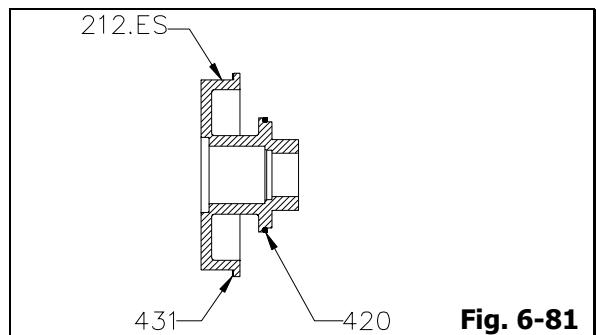

Fig. 6-81
1. Install stuffing box cover "O" ring (420) and stuffing box cover gasket (431) onto stuffing box cover (212.ES) (Fig. 6-81).